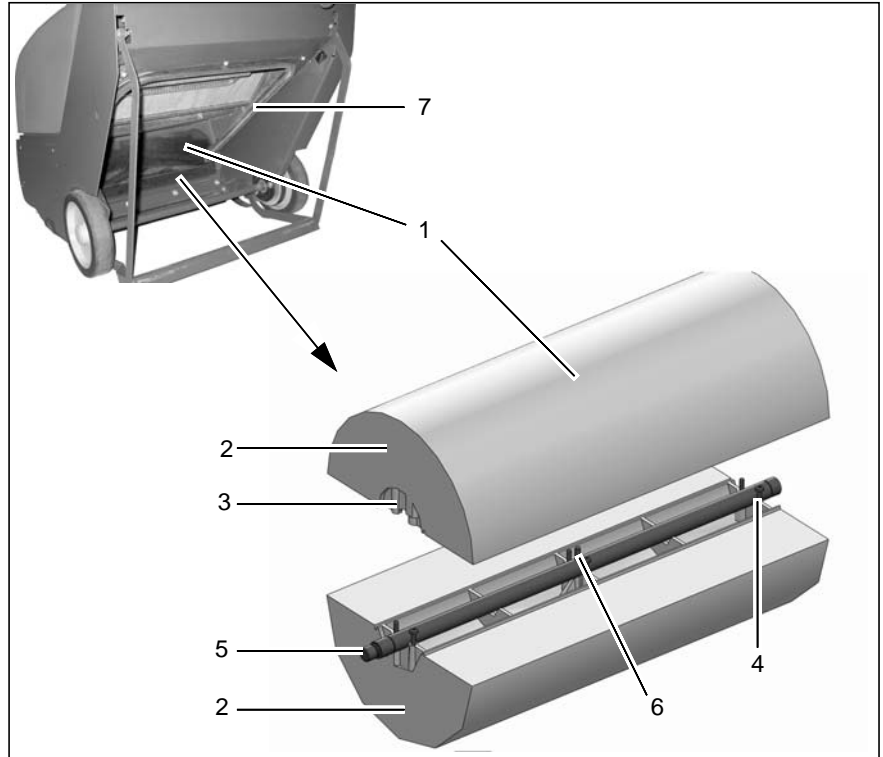

Fig. 20
The brush space with the rotary brush (Fig. 20/1) and seals for the dirt hopper (Fig. 20/7) must be checked daily for signs of dirt and cleaned as necessary.
The rotary brush (Fig. 20/1) must be checked weekly and changed in the case of wear. A new rotary brush has a diameter of 9.9 in. When a rotary brush has a diameter of only 7.9 in, it must be replaced with a new one.
The rotary brush (Fig. 20/1) is comprised of two rotary brush segments (Fig. 20/2) which are fixed to the rotary brush shaft (Fig. 20/5) by the screws (Fig. 20/4). Pay attention that the bristle pattern on the rotary brush (Fig. 20/1) is always arranged in a V-shape in the direction of driving so that the dirt is guided to the center of the rotary brush.
2. First of all, disassemble the two adjacent rotary brush segments (Fig. 20/2): Loosen the screws (Fig. 20/4) and remove the rotary brush segments (Fig. 20/2).
3. Then turn the rotary brush shaft (Fig. 20/5) 180° by hand and disassemble the two remaining rotary brush segments (Fig. 20/2).
4. Assemble four new rotary brush segments (Fig. 20/2) in the reverse sequence. When doing so, pay attention that the rotary brush segments (Fig. 20/2) are installed on the guide pins (Fig. 20/6) of the rotary brush shaft (Fig. 20/5) and screw to facing rotary brush segments (Fig. 20/2) firmly to each other.
7. After changing the rotary brush (Fig. 20/1), readjust the sweeping pattern as necessary.
In the case of brush wear, and after changing the rotary brush (Fig. 20/1), the sweeping pattern must be readjusted.